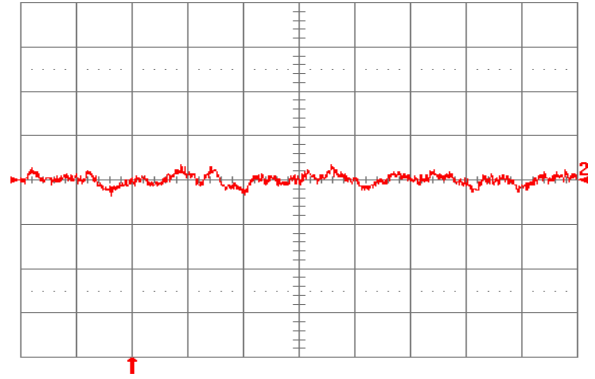

**Fig. 6.0V.14:** Test Setup for measuring input reflected ripple currents,  $i_c$  and  $i_s$ .
**Fig. 6.0V.1:** Available load current vs. ambient air temperature and airflow rates for SQ48T08060 converter with D height pins mounted vertically with  $V_{in} = 48\text{V}$ , air flowing from pin 3 to pin 1, and maximum FET temperature  $\leq 120^\circ\text{C}$ .
**Fig. 6.0V.2:** Available load current vs. ambient air temperature and airflow rates for SQ48T08060 converter with D height pins mounted horizontally with  $V_{in} = 48\text{V}$ , air flowing from pin 3 to pin 1, and maximum FET temperature  $\leq 120^\circ\text{C}$ .
**Fig. 6.0V.3:** Available load current vs. ambient air temperature and airflow rates for SQ48S08060 converter mounted vertically with  $V_{in} = 48V$ , air flowing from pin 3 to pin 1, and maximum FET temperature  $\leq 120^{\circ}C$ .
**Fig. 6.0V.4:** Available load current vs. ambient air temperature and airflow rates for SQ48S08060 converter mounted horizontally with  $V_{in} = 48V$ , air flowing from pin 3 to pin 1, and maximum FET temperature  $\leq 120^{\circ}C$ .
**Fig. 6.0V.5:** Efficiency vs. load current and input voltage for SQ48T/S08060 converter mounted vertically with air flowing from pin 3 to pin 1 at a rate of 300 LFM (1.5 m/s) and  $T_a = 25^{\circ}C$ .
**Fig. 6.0V.6:** Efficiency vs. load current and ambient temperature for SQ48T/S08060 converter mounted vertically with  $V_{in} = 48V$  and air flowing from pin 3 to pin 1 at a rate of 200 LFM (1.0 m/s).
**Fig. 6.0V.7:** Power dissipation vs. load current and input voltage for SQ48T/S08060 converter mounted vertically with air flowing from pin 3 to pin 1 at a rate of 300 LFM (1.5 m/s) and  $T_a = 25^\circ\text{C}$ .
**Fig. 6.0V.8:** Power dissipation vs. load current and ambient temperature for SQ48T/S08060 converter mounted vertically with  $V_{in} = 48\text{V}$  and air flowing from pin 3 to pin 1 at a rate of 200 LFM (1.0 m/s).
**Fig. 6.0V.9:** Turn-on transient at full rated load current (resistive) with no output capacitor at  $V_{in} = 48\text{V}$ , triggered via ON/OFF pin. Top trace: ON/OFF signal (5 V/div.). Bottom trace: output voltage (2V/div.). Time scale: 2 ms/div.
**Fig. 6.0V.10:** Turn-on transient at full rated load current (resistive) plus 10,000  $\mu\text{F}$  at  $V_{in} = 48\text{V}$ , triggered via ON/OFF pin. Top trace: ON/OFF signal (5 V/div.). Bottom trace: output voltage (2V/div.). Time scale: 5 ms/div.
**Fig. 6.0V.11:** Output voltage response to load current step-change (2 A – 4 A – 2 A) at  $V_{in} = 48V$ . Top trace: output voltage (100 mV/div.). Bottom trace: load current (2 A/div.). Current slew rate: 0.1A/ $\mu$ s.  $C_o = 1\mu F$  ceramic. Time scale: 0.2 ms/div.
**Fig. 6.0V.12:** Output voltage response to load current step-change (2 A – 4 A – 2 A) at  $V_{in} = 48V$ . Top trace: output voltage (100 mV/div.). Bottom trace: load current (2 A/div.). Current slew rate: 5A/ $\mu$ s.  $C_o = 450\mu F$  tantalum + 1 $\mu F$  ceramic. Time scale: 0.2ms/div.
**Fig. 6.0V.13:** Output voltage ripple (50mV/div.) at full rated load current into a resistive load with  $C_o = 10\mu F$  tantalum + 1 $\mu F$  ceramic and  $V_{in} = 48V$ . Time scale: 1 $\mu$ s/div.
**Fig. 6.0V.15:** Input reflected ripple current,  $i_c$  (100 mA/div.), measured at input terminals at full rated load current and  $V_{in} = 48V$ . Refer to Fig. 6.0V.14 for test setup. Time scale: 1  $\mu s$ /div.
**Fig. 6.0V.16:** Input reflected ripple current,  $i_s$  (10 mA/div.), measured through 10  $\mu H$  at the source at full rated load current and  $V_{in} = 48V$ . Refer to Fig. 6.0V.14 for test setup. Time scale: 1  $\mu s$ /div.
**Fig. 6.0V.17:** Output voltage vs. load current showing current limit point and converter shutdown point. Input voltage has almost no effect on current limit characteristic.
**Fig. 6.0V.18:** Load current (top trace, 10A/div., 20 ms/div.) into a 10  $m\Omega$  short circuit during restart, at  $V_{in} = 48V$ . Bottom trace (10A/div., 1ms/div.) is an expansion of the on-time portion of the top trace.